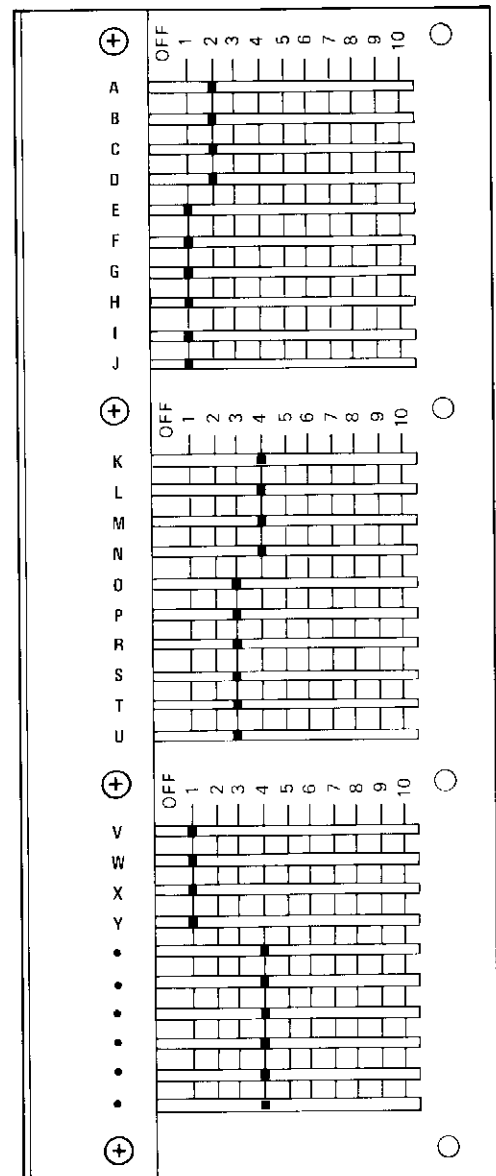

Figure 10. EXAMPLE OF HOW THE PRICE SETTING BOARD WILL LOOK WHEN PRODUCT PRICING SLIDERS ARE IN POSITION. FOR A MODEL 524
16. **PRICING: 4/10 PRICE CHANGERS:** The selection price setting board is located at the upper right side of cabinet (page 16, item 47) just above the sliding panel. Each selection has its own price setting slider on this board. Place the slider for each selection to its correct selling price as previously established in the changer. The far left line is number (1) price line from the changer, the second from the left is the number (2) price line, etc. See Figure 10.